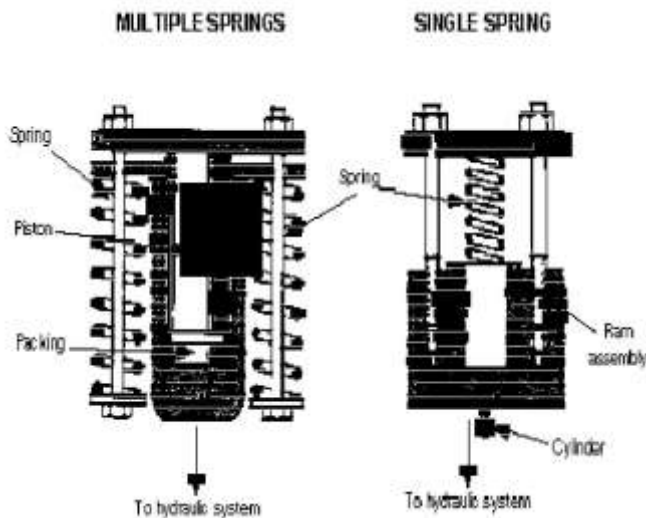

Figure 3
**a. Spring-Loaded Accumulator.** This accumulator is used in some engineer equipment hydraulic systems. It uses the energy stored in springs to create a constant force on the liquid contained in an adjacent ram assembly. Figure 3 shows two spring-loaded accumulators. The load characteristics of a spring are such that the energy storage depends on the force required to compress a spring. The free (uncompressed) length of a spring represents zero energy storage. As a spring is compressed to the maximum installed length, a minimum pressure value of the liquid in a ram assembly is established. As liquid under pressure enters the ram cylinder, causing a spring to compress, the pressure on the liquid will rise because of the increased loading required to compress the spring.